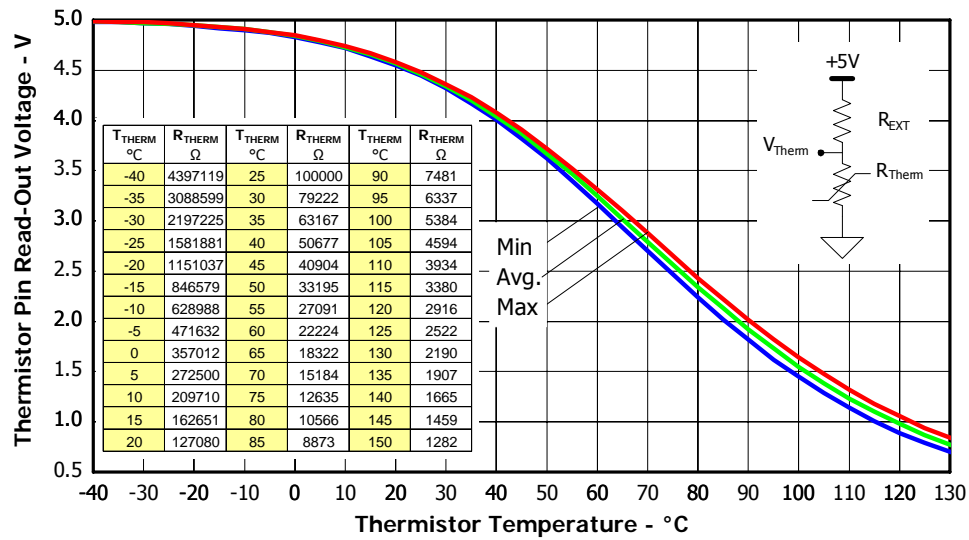

Figure 9. Thermistor Readout vs. Temperature (12kohm pull-up resistor, 5V) and Nominal Thermistor Resistance values vs. Temperature Table.
3. Value of the boot-strap capacitors depends upon the switching frequency. Their selection should be made based on IR design tip DN 98-2a, application note AN-1044 or Figure 9. Bootstrap capacitor value must be selected to limit the power dissipation of the internal resistor in series with the  $V_{CC}$ . (see maximum ratings Table on page 3).